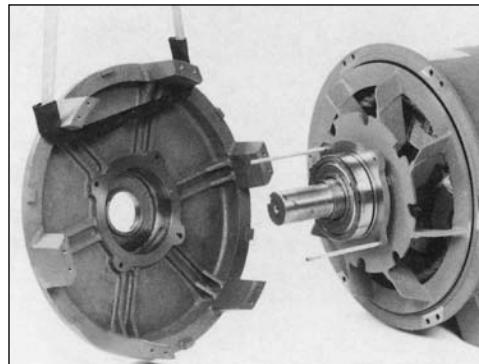
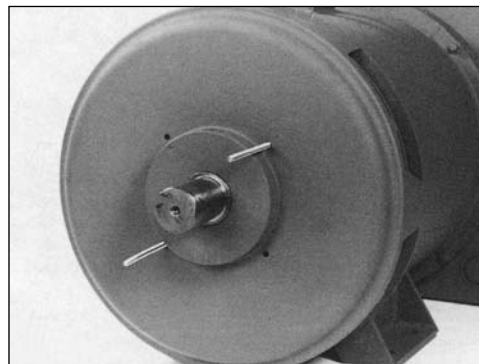
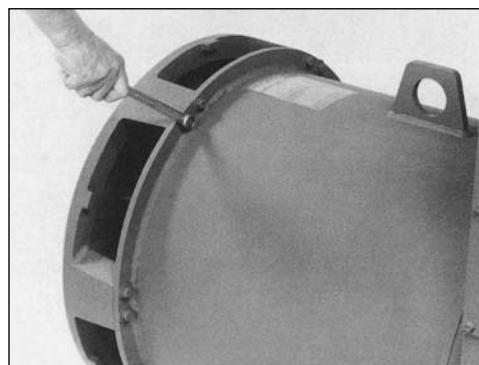

Figure 6-57
Figure 6-58
Figure 6-59
- b. For two-bearing generators, insert two guide pins in the rear bearing lock holes (figure 6-57). Fill the grease cavity of the drive end bracket 1/3 to 1/2 full of Exxon® Polyrex® EM (or equivalent) grease. Assemble all grease plugs in the bracket. Mount the bracket on the bearing and guide the bearing lock pins through the bracket holes (figure 6-58). Align the drive end bracket and mount with the capscrews (figure 6-59). Insert two capscrews with lockwashers into the bearing lock and tighten. Remove the guide pins and replace with the remaining two capscrews with lock washers. Torque bearing capscrews to 25 ft-lb (34 N-m). Torque bracket mounting capscrews per specifications given in section 11.